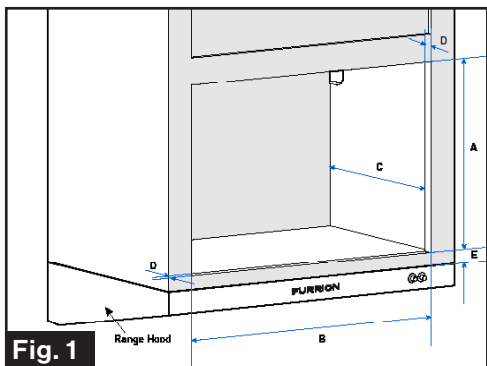

Fig. 1
2. Mark and cutout an opening in the cabinet according to the dimensions outlined in the table. (Fig. 1)